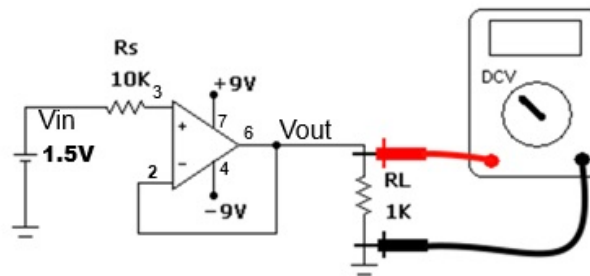
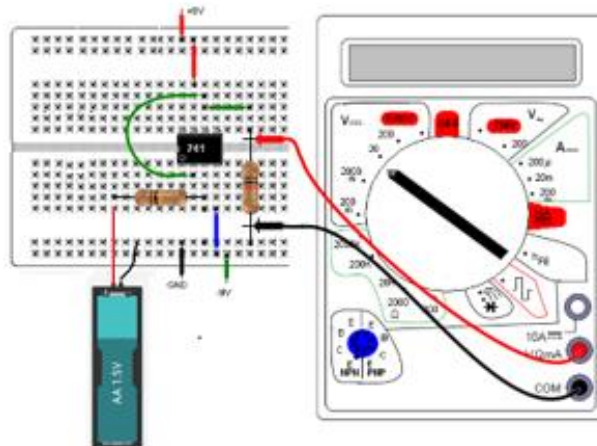

Figure 4 – Buffer Circuit
Figure 5 – Buffer with Op Amp
- 3) The circuit in Figure 4 is a Buffer that isolates a 1 k R_L load from a circuit whose output resistance is 10 k. Calculate the voltage across R_L in the circuit in Figure 4. Note as $V_{RL}(\text{calc.})$
- 4) Assemble the circuit in Figure 4 on the breadboard according to the layout suggestion in Figure 5 and measure the voltage across the 1k load.